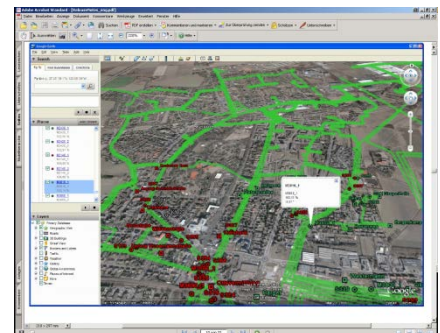

Figure 3: Export results to Google® Earth®
- graphics (div. file formats), graphics to Google® Earth® (see Figure 3)